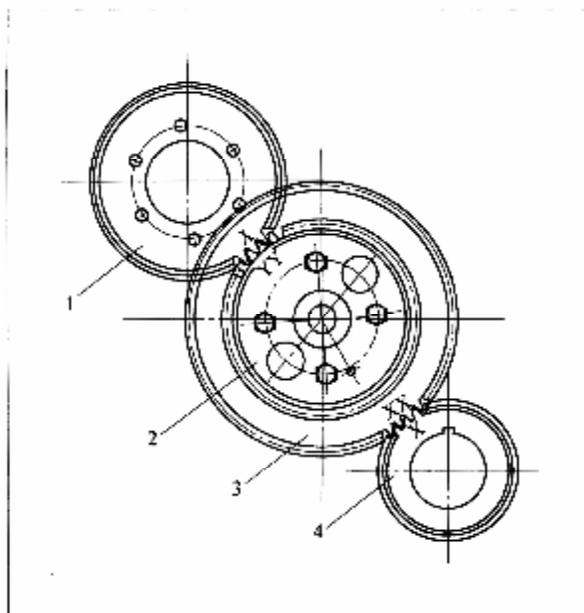

Figure 8-9 Gear Drive Mechanism
When to press to mount the timing gear, the mark "X" on gear should face outward (see Figure 8-9).
The turbocharged diesel engine's gear drive mechanism includes: the injection pump drive gear, camshaft gear, idle gear, crankshaft gear and other gears, as shown in Figure 8-9.
- (1) When pressing in the cam gear and idle gear, the gear marks “X, X” and “Y, Y” should face outwards (see Figure 8-9).
- (2) When to mount tappet into the tappet bore in cylinder block, apply the lubricating oil on them. Installed tappet should be able to rotate by hand.
- (3) After oil pump has been tightened, the camshaft should be able to rotate by hands.